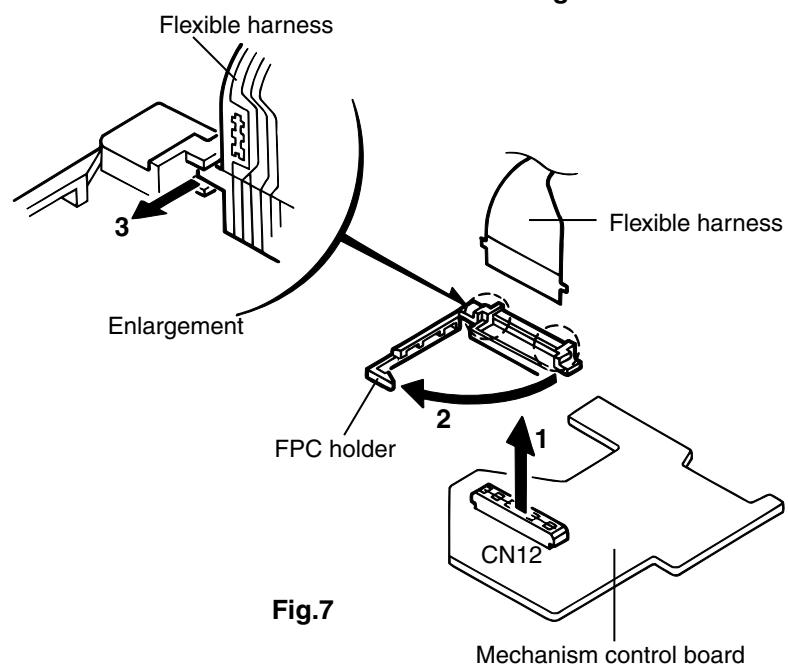

Fig.7
- 4. Pull out the FPC holder from the CN12 connector on the reverse side of the mechanism control board and remove the flexible harness, referring to Fig.7.